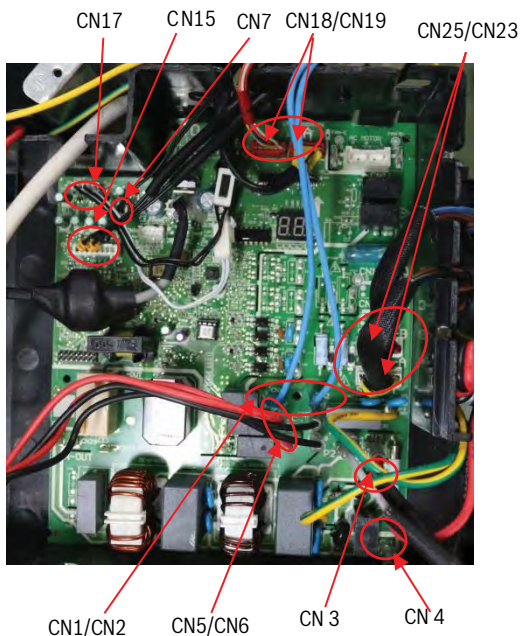

Figure 94
4. Disconnect connectors as shown in Figure 94.